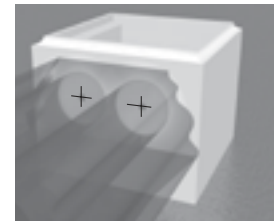

FIGURE 4B
B) Transfer the measurements onto the NEWEL POST BOTTOM SECTION that will come in contact with the BALUSTER BOTTOM RAIL (**FIG. 4B**), and drill 1/2" holes, which are oversize, in the NEWEL POST BOTTOM SECTION.